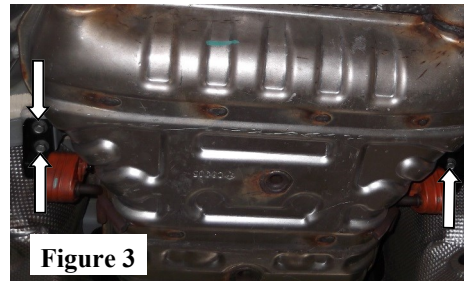

Figure 3
4. Remove (2) 13mm bolts from right side and left side and remove rubber isolator. Keep hardware for reinstallation. (See Fig. 3)